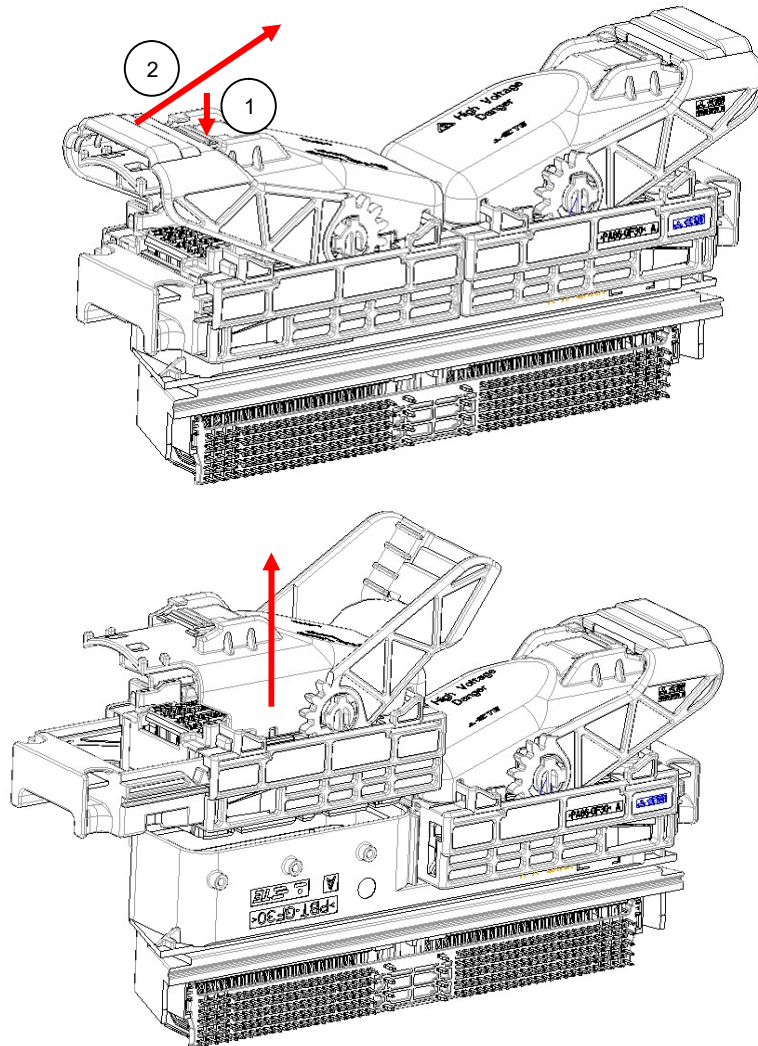

Fig. 15
- (1) Push the COVER ASS'Y's locking block.
- (2) Pull out the lever to inserting reverse direction. (See Fig. 15)